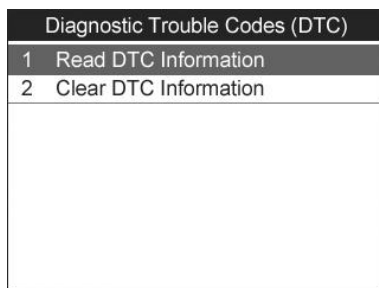

Figure 9.27
- 2) Use the **UP/DOWN** scroll button to select **Read DTC Information** and press the **OK** button. (Figure 9.27)
- 2) Use the **UP/DOWN** scroll button to select **Clear DTC Information** and press the **OK** button. (Figure 9.27)